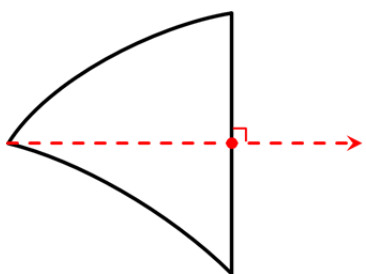

Figure 2
3. Use the ruler to draw a straight line from the apex opposite the flat side of the outline, through the half-way mark you just made. Extend the line several centimeters past the outline as in Figure 2. This line represents a line normal to the flat mirror surface.